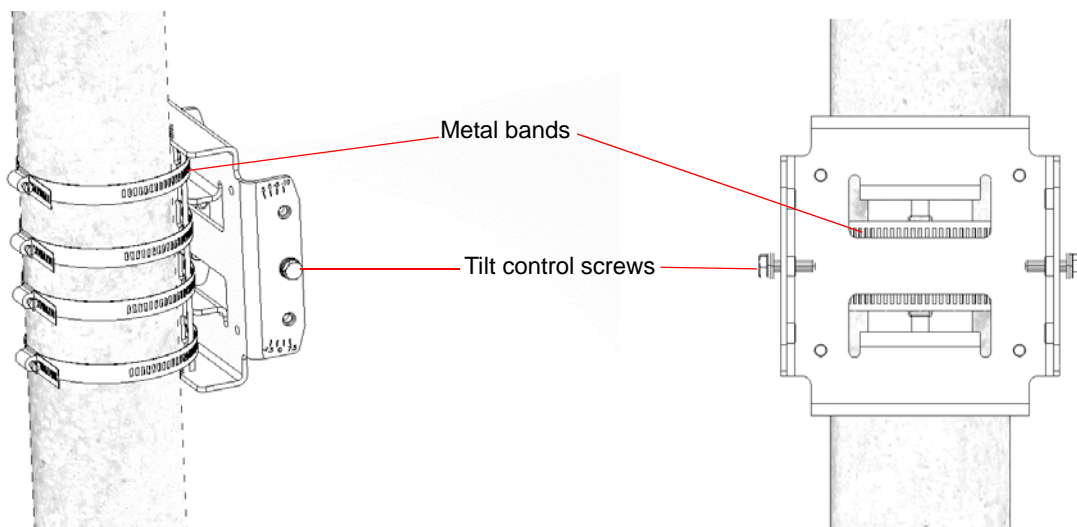

Figure 2-11: Installed Carriage with Metal Bands
- 2 Thread the four metal bands through the grooves on the BTS carriage and fasten them (see Figure 2-11).
- 3 Attach the carriage to the pole and fasten the metal bands (see Figure 2-11).
- 4 Insert the tilt control screws into the middle-side hole of the carriage on both sides (Figure 2-11).